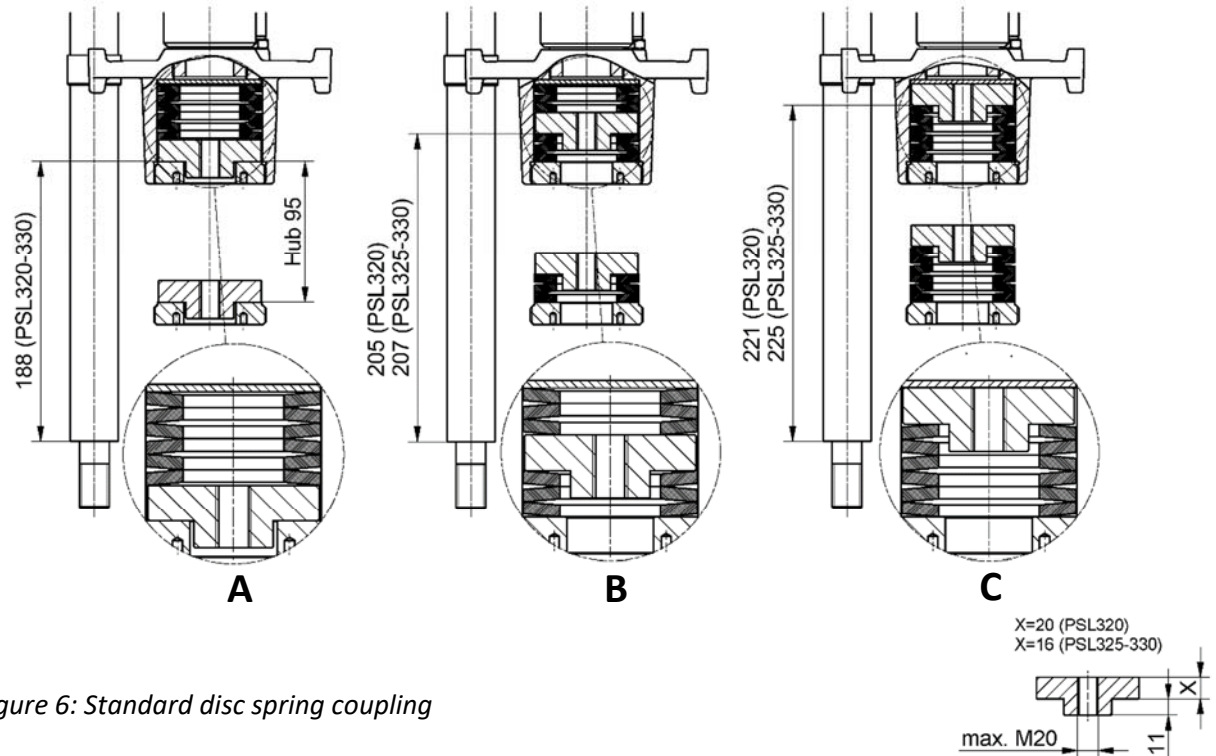

Figure 6: Standard disc spring coupling
- Unscrew the locking nut (item 5) from the spindle nut (item 1) and slide it over the valve stem (item 9).
- See if the bore of the coupling piece (item 3) fits the valve stem. If necessary, rebores and/or recut the thread.
- Slide or screw the coupling piece onto the valve stem and bore or pin to the valve stem. You may also secure the coupling piece by using a counter nut (item 4) (Lay the cup springs according to Figure 6 on page 10).
- Slide the pillars into the bore holes of the mounting bracket (item 6) and tighten with the pillar nuts (item 7).
- A: Arrangement for a through-valve with "Valve stem retracting" as direction of closing (*Figure 6*).
- B: Arrangement for a 3-way valve (*Figure 6*).
- C: Arrangement for a through valve with "Valve stem extending" as direction of closing (*Figure 6*).